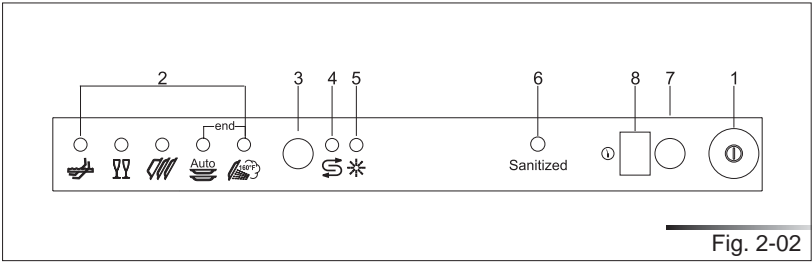
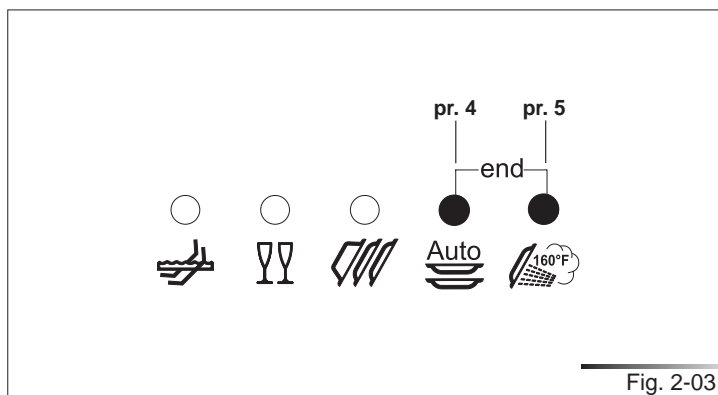

Fig. 2-02
Fig. 2-03
The dishwasher is equipped with a control panel (see fig. 2-02) which is used to program the appliance and switch it on and off.
Press the on/off button (ref. 1 fig. 2-02) to start the dishwasher. Then wait for one of the **program indicator lights** to turn on (ref. 2 fig. 2-02).
- Press the **program selection button** (ref. 3 fig. 2-02) several times until the indicator light corresponding to the required program turns on (ref. 2 fig. 2-02);
- To cancel the current program, open the door and press and hold down the **program selection** button (ref. 3 fig. 2-02) for a few seconds until the indicator lights of the fourth and fifth programs turn on (ref. pr. 4, pr. 5 fig. 2-03).
- After about 1 minute, the dishwasher terminates the cycle and the indicator lights of the fourth and fifth programs (ref. pr. 4, pr. 5 fig. 2-03) start flashing.
Before programming a delay, open the door of the dishwasher, select the required washing program (see para 2.2 “Setting the washing program and switching on and off”). Select the day by pressing the **Program delay** button (ref. 7 fig. 2-02); each time you press the button, the display increases the delay before the appliance starts by **1 hour**.
At the end of the program, the dishwasher emits a short beep and the **indicator lights of the fourth and fifth program** (ref. pr. 4, pr. 5 fig. 2-04) flash. Turn off the appliance by opening the door and pressing the **on/off button** (ref. 1 fig. 2-02).